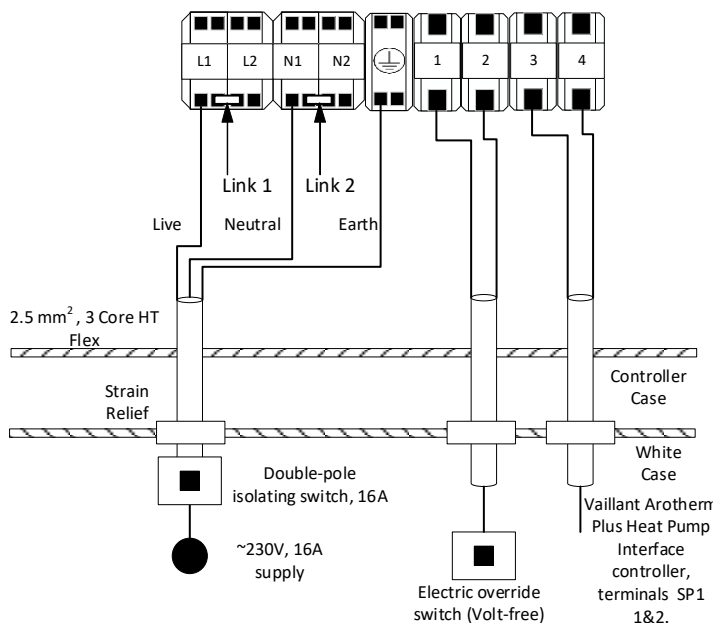
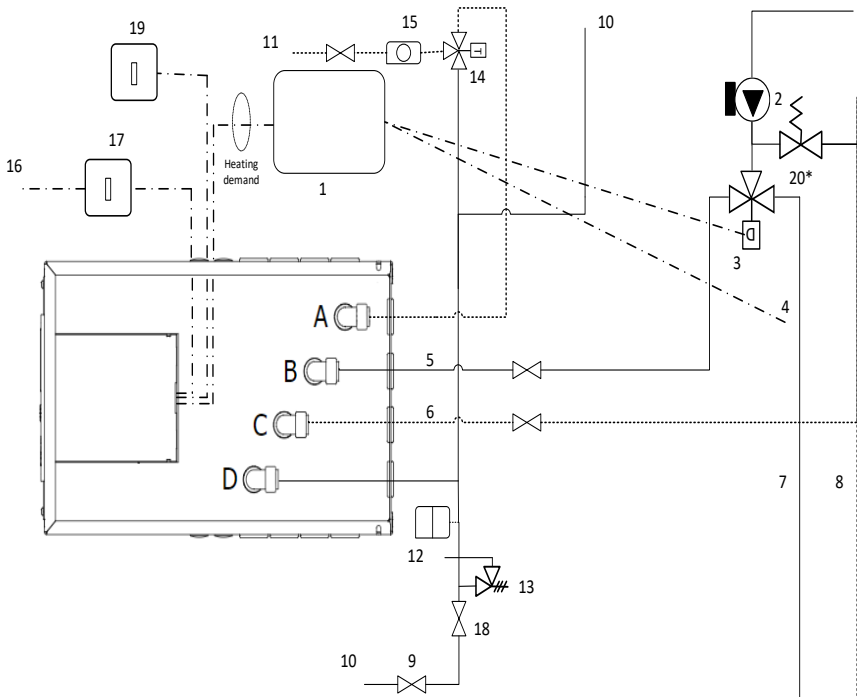

Figure 2: Thermino hp-VT system wiring
Figure 3: Example wiring option 1.2 schematic (see *Thermino hp* installation manual, Figure 3 for piping and electrical exit options available)
- Run and connect 3 Core mains power supply cable (16A minimum, minimum 2.5mm² CSA) from the Double-pole isolating switch to the Heat Battery controller (Figures 2 and 3).
- Wire the cable via the appliance case grommets and into the control box housing (Thermino hp installation manual Figure 8 and Figures 2 and 3 below).
- Prepare if necessary and wire the mains power cable in the following terminals (Thermino hp installation manual, Figure 10 and Figures 2 and 3 below):
- Wire a 2 core shielded PVC insulated cable (minimum 0.75mm² CSA, 24 x 0.2mm according to BS 6500) from a 2-pole Volt-free contact switch, run the wire into the appliance via the appliance case cabling grommets and then into the control box housing through the hole available. Secure the cables in Terminal T1 & T2 independently (Figure 2 & Figure 3).
- Wire a 2 core PVC insulated cable (minimum 0.75mm² CSA, 24 x 0.2mm according to BS 6500), the heat battery controller in this application acts as hot water thermostat. The cable will act as a hot water heating tank sensor from the heat battery controller terminals T3 & T4 into the Vaillant Heat Pump Interface controller SP1 screw terminals 1&2 (please refer to Vaillant Arotherm Plus Installation manual). Please run the wire into the heat battery appliance via the appliance case cabling grommets and then into the control box housing through the hole available. Secure the cables in Terminals T3 & T4 independently (Figure 2).